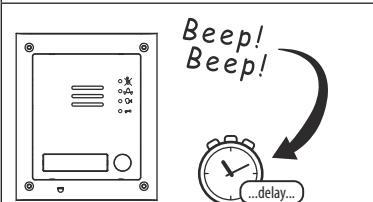

Fig. 58
3. Two short beeps will be heard from the GSM followed by a short delay, as shown **Fig.58**.